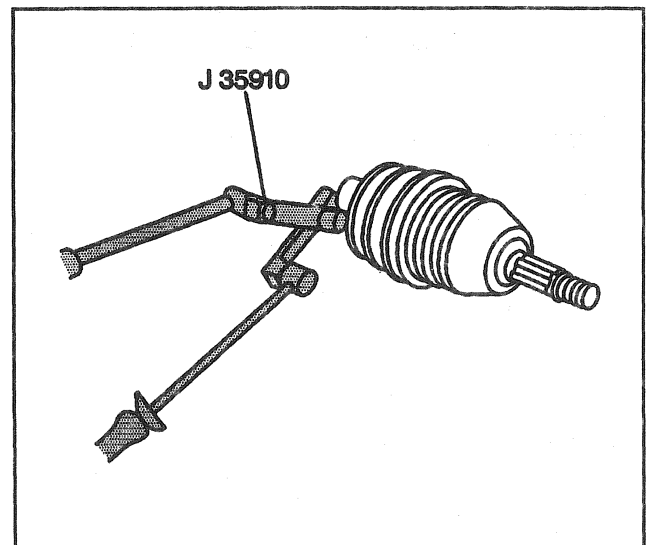

Figure 56—Installing Seal Retaining Clamp
- B. Crimp the self retaining clamp with J 35910 to 136 N·m (100 lb ft) (Figure 56).
Install or Connect (Figures 56 and 63 through 65)
- Crimp seal retaining clamp using J 35910 to 136 N.m (100 lb ft) (Figure 56).